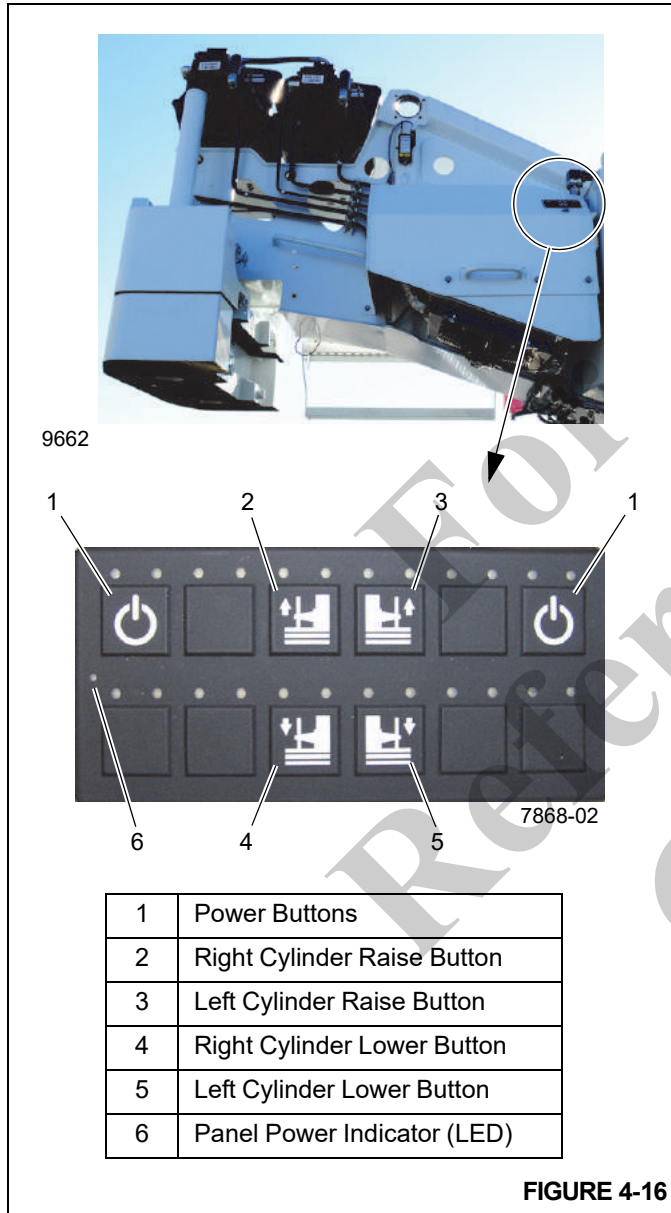

FIGURE 4-16
Figure 4-16 shows the counterweight control panel. A control panel is located on each side of the superstructure. The control panels function only if the Crane Function Power Switch is turned off, an armrest is in the up position, or there is no one sitting in the crane cab operator's seat. A green LED (6, Figure 4-16) on the left side of the control panel illuminate to indicate the control panel is operational.
To initiate the function, press and hold the power button (1), then the counterweight raise or lower button (4, 5, Figure 4-16). If a counterweight removal cylinder raise or lower button (4, 5, Figure 4-16) is pressed without first pressing and holding a Power Button (1, Figure 4-16), a red LED above that button will flash.
8. Using the counterweight control panel (Figure 4-16) located on either side of the superstructure, lower the counterweight cylinders. For more information, see *Lowering the Counterweight Cylinders*, page 4-24.
7. Using counterweight switch panel (Figure 4-16) located on either side of the turntable, slightly raise the counterweight removal cylinders. For more information, see *Raising the Counterweight Cylinders*, page 4-24.
9. Using the counterweight switch panel (Figure 4-16), fully lower the counterweight removal cylinders. For more information, see *Lowering the Counterweight Cylinders*, page 4-24.
9. Using counterweight control panel (Figure 4-16) located on either side of superstructure, lower the counterweight removal cylinders. For more information, see *Lowering the Counterweight Cylinders*, page 4-24.
11. Using the counterweight control panel (Figure 4-16), fully raise counterweight removal cylinders. For more information, see *Raising the Counterweight Cylinders*, page 4-24.
8. Using the counterweight control panel (Figure 4-16), fully lower counterweight removal cylinders. For more information, see *Lowering the Counterweight Cylinders*, page 4-24.